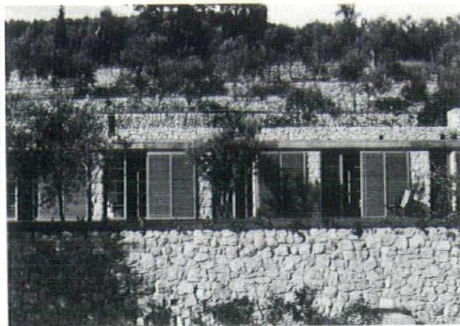

Figure 7
applied to buildings in other climates. An underground dwelling was completed last year on Cape Cod in Massachusetts, which has proven economical to construct and to heat (6). An elegant variation, both from land use and conservation standpoints, is a residence in Grasse, France by Finnish architect Kristian Gullichsen, excavated into an existing terraced orchard, *Figure 7* (7).